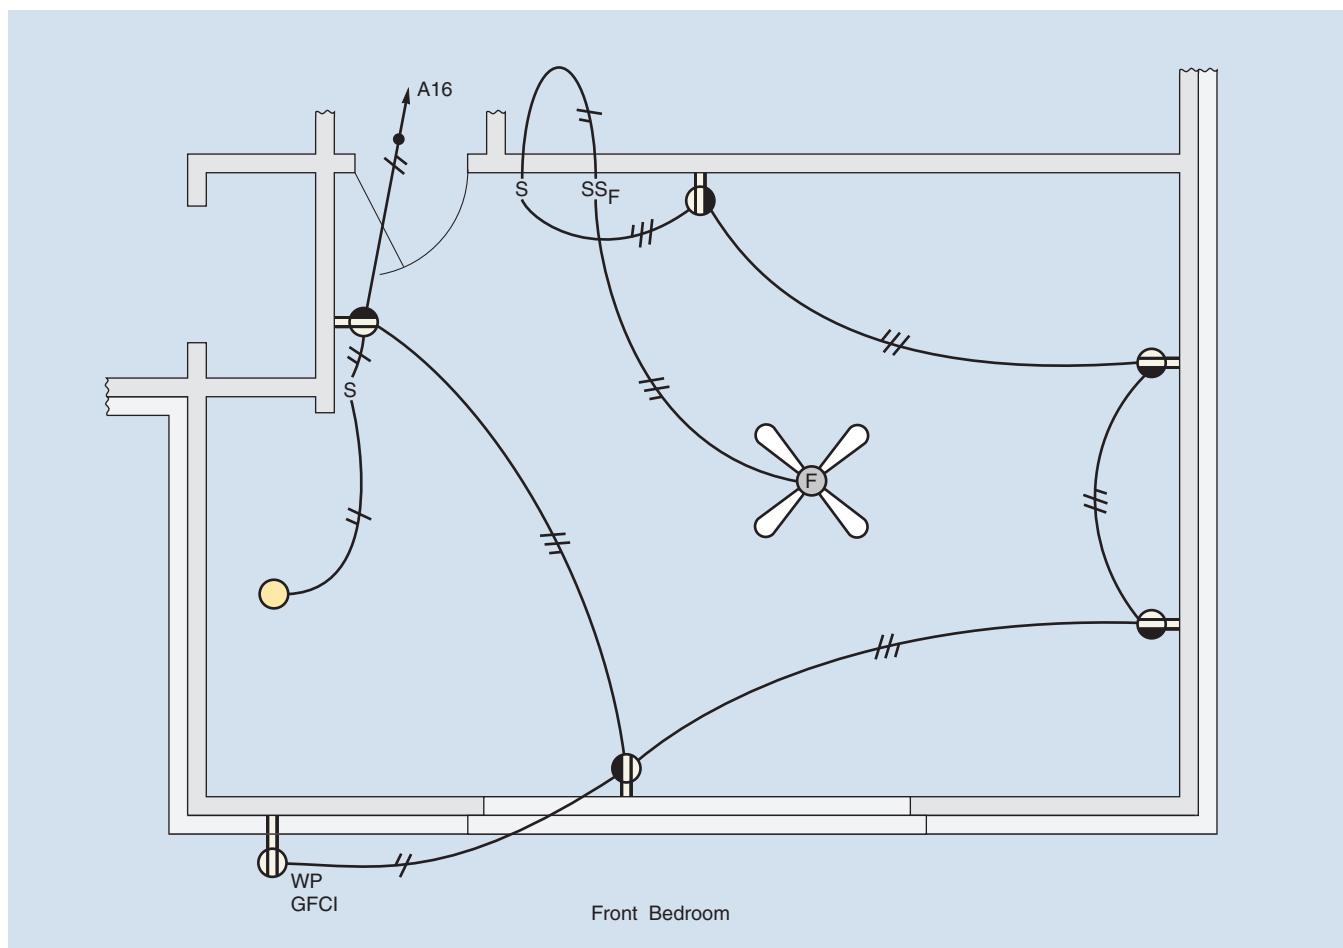

FIGURE 8-7 Cable layout for Front Bedroom circuit, A16. (Delmar/Cengage Learning)
The Front Bedroom is the beginning of our journey to study the wiring of a typical dwelling. Circuit A16 is a 15-ampere branch circuit. This branch circuit involves two key issues: (1) the requirement for GFCI protection dealt with in *210.8(A)(3)* for the receptacle located outside the front of the house, and (2) the requirement for AFCI protection dealt with in *210.12(A)*. In accordance with *210.12(A)*, arc-fault circuit protection for this circuit is provided by a 15-ampere AFCI circuit breaker in Panel A. GFCIs and AFCIs are discussed in detail in Chapter 6. As we look at this circuit, we find five split-wired or half-switched receptacle outlets. These will provide the general lighting through the use of table or other lamps that will be plugged into the switched receptacles, as shown in Figure 8-7.